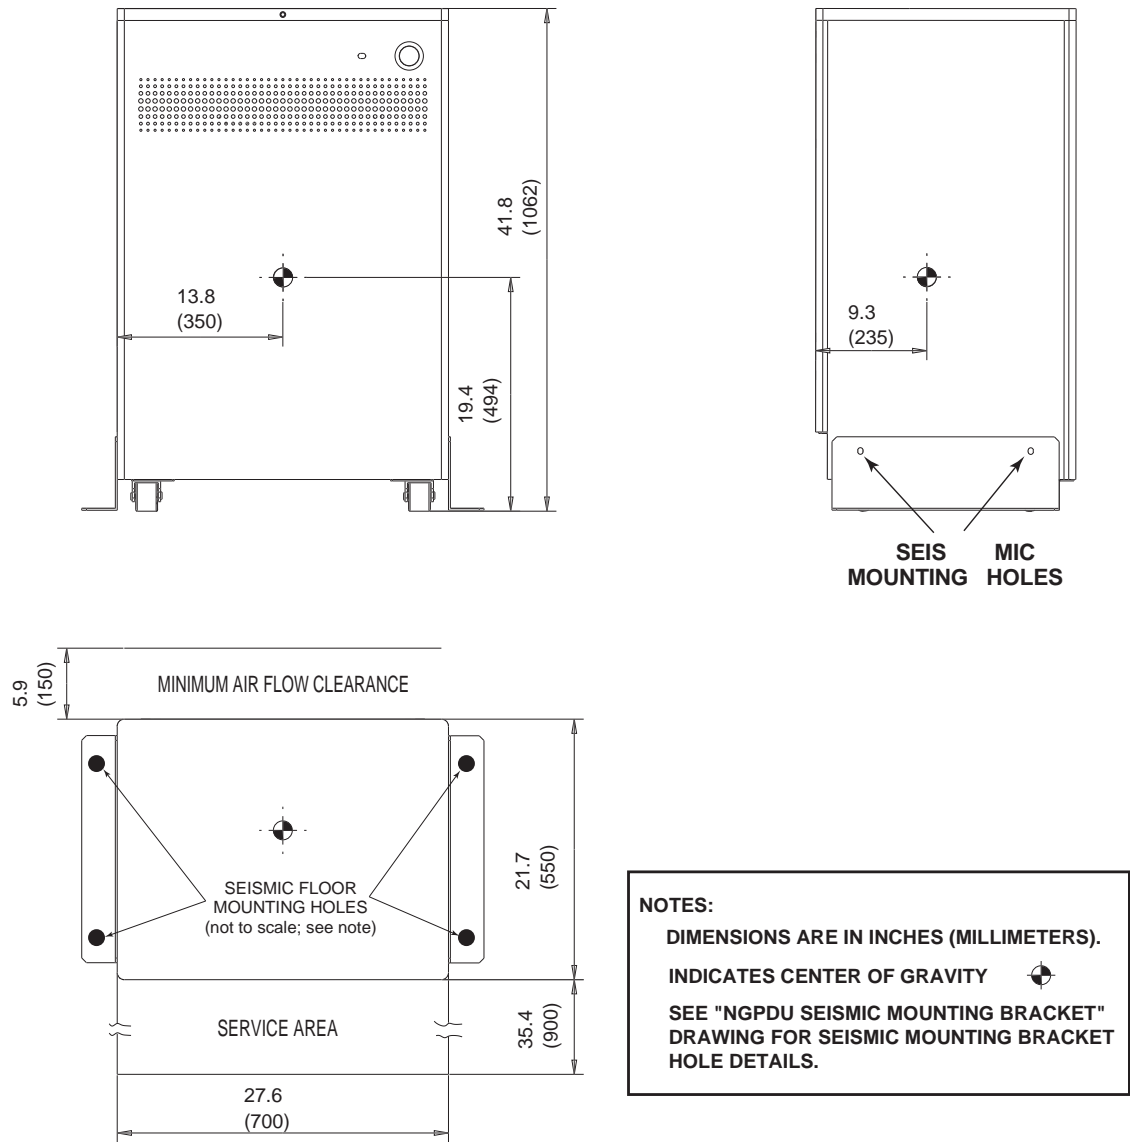

Figure 8-12 PDU Center-of-Gravity
- Power Distribution Unit: Figure 8-12 (PDU Seismic Mounting Bracket)